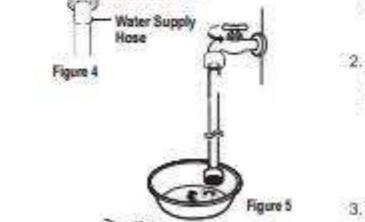

Figure 5
4. Always run a gallon or two of water through each inlet hose to flush dirt, scale and other debris out of the water lines. Doing so will help prevent future problems with clogged filter screens, and will also allow you to verify which water line is hot and which is cold. (Figure 5)